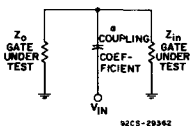

Fig. 19 Equivalent circuit used in crosstalk analysis of test configuration shown in Fig. 18.
The equivalent circuit for the part of the test configuration used in this analysis is shown in Fig. 19. On the basis of this equivalent circuit, Eq. (1) may be rewritten as follows: